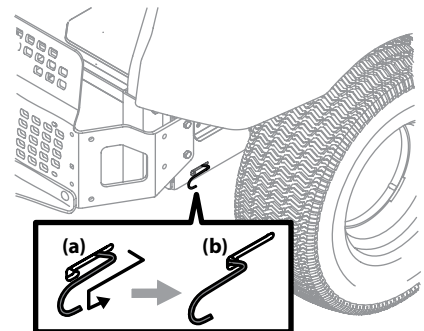

Figure 4-5
1. From the rear of the tractor, just inside the two rear tires, locate the transmission bypass rods. Refer to Figure 4-5.
2. Engage the transmission bypass rods, one on each side of the tractor, to move the tractor manually without starting it. Engage the bypass rods by pulling each one back (a) and hooking it into the slot (b) to lock it into place. See Figure 4-5.
3. Disengage the bypass rods by reversing steps (a) and (b) after moving the tractor. See Figure 4-5.
1. Disengage the brake and open the bypass valve and start the tractor. See Figure 4-5.